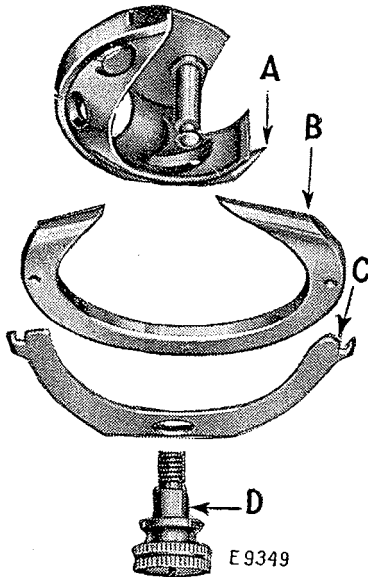

FIG. 28. SHUTTLE AND PARTS REMOVED FROM MACHINE
shown in Fig. 28, then replace the other parts in the order illustrated in Fig. 28. Replace and tighten the thumb screw (D). Replace the bobbin and bobbin case and close the slide in the bed of the machine.